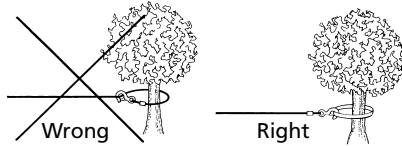

Figure 3
9. NEVER HOOK THE WIRE ROPE BACK ONTO ITSELF. You could damage the wire rope. Use a nylon sling (Figure 3).